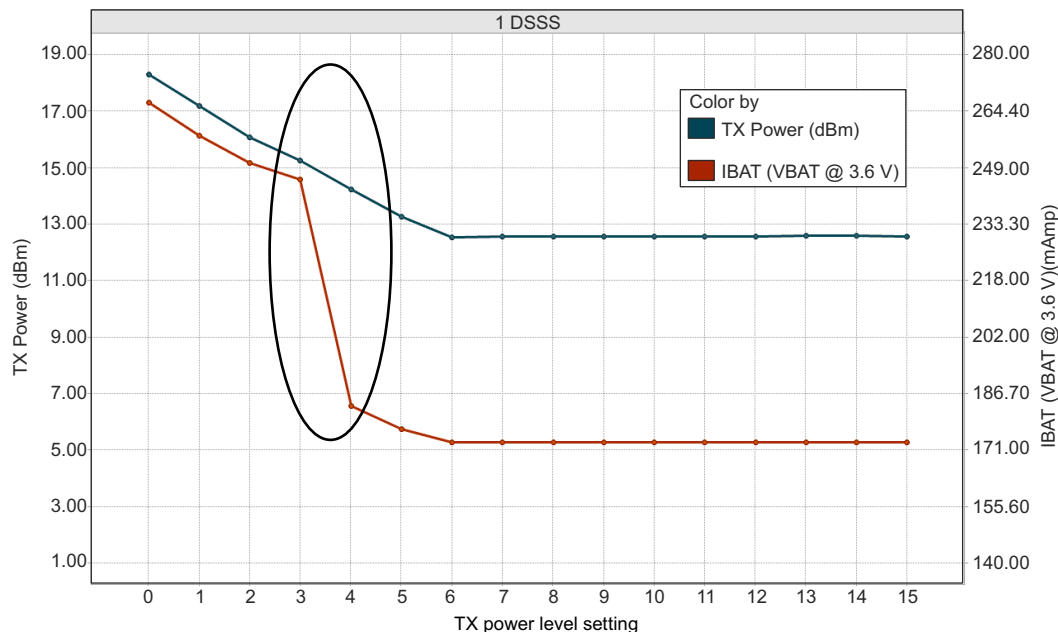
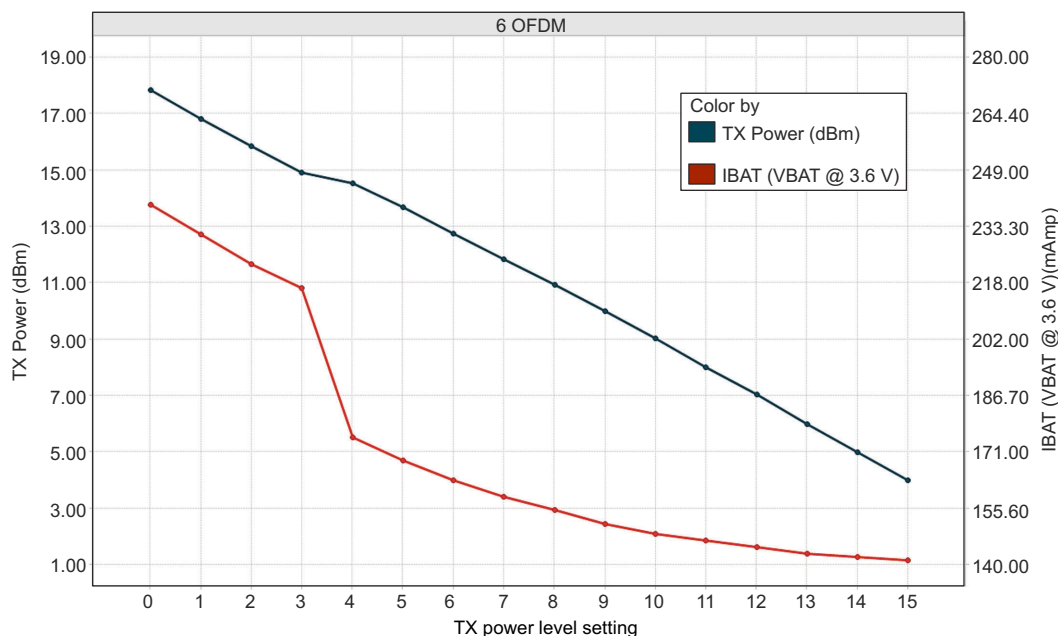
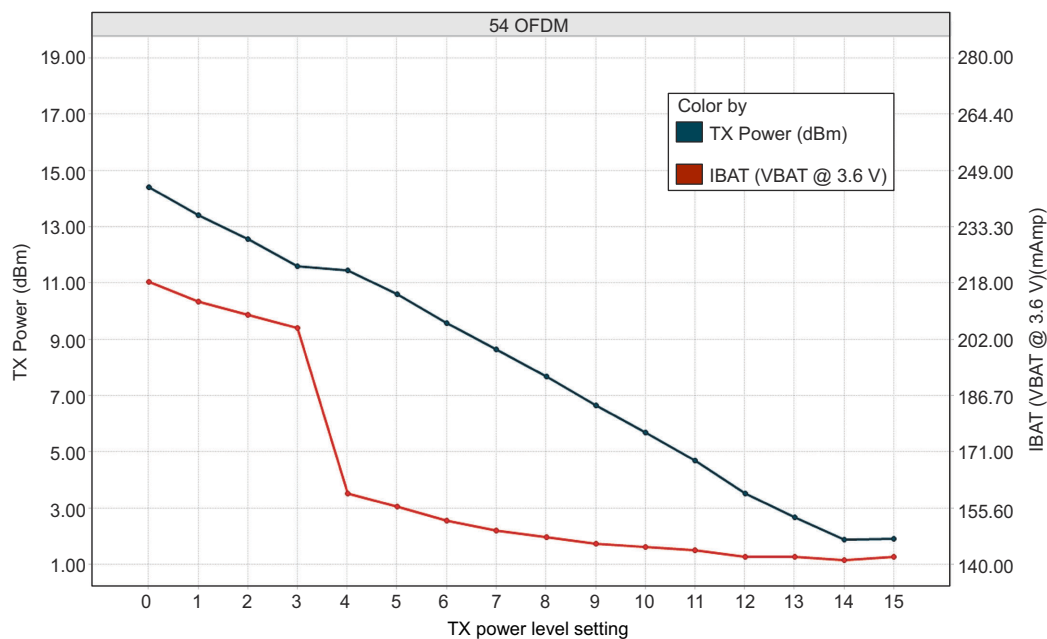

图 8-1. TX Power and IBAT vs TX Power Level Settings (1 DSSS)
图 8-2. TX Power and IBAT vs TX Power Level Settings (6 OFDM)
图 8-3. TX Power and IBAT vs TX Power Level Settings (54 OFDM)
(1) TX power level = 0 implies maximum power (see 图 8-2, 图 8-2, and 图 8-3). TX power level = 4 implies output power backed off approximately 4 dB.
(2) LPDS current does not include the external serial flash. The CC3235MODx and CC3235MODAx can be configured to retain 0 KB, 64 KB, 128 KB, 192 KB, or 256 KB of SRAM in LPDS. Each 64-KB block of MCU retained SRAM increases LPDS current by 4 μA .
(3) DTIM = 1
(4) The complete calibration can take up to 17 mJ of energy from the battery over a period of 24 ms. Calibration is performed sparingly, typically when coming out of HIBERNATE and only if temperature has changed by more than 20°C. The calibration event can be controlled by a configuration file in the serial flash.
(5) Typical numbers assume a VSWR of 1.5:1.
图 8-1, 图 8-2, and 图 8-3 show TX power and IBAT versus TX power level settings for the CC3235MODS module at modulations of 1 DSSS, 6 OFDM, and 54 OFDM, respectively. For the CC3235MODSF module, the IBAT current has an increase of approximately 10 mA to 15 mA depending on the transmitted rate. The TX power level remains the same.⁵
In 图 8-1, the area enclosed in the circle represents a significant reduction in current during transition from TX power level 3 to level 4. In the case of lower range requirements (14-dBm output power), TI recommends using TX power level 4 to reduce the current.